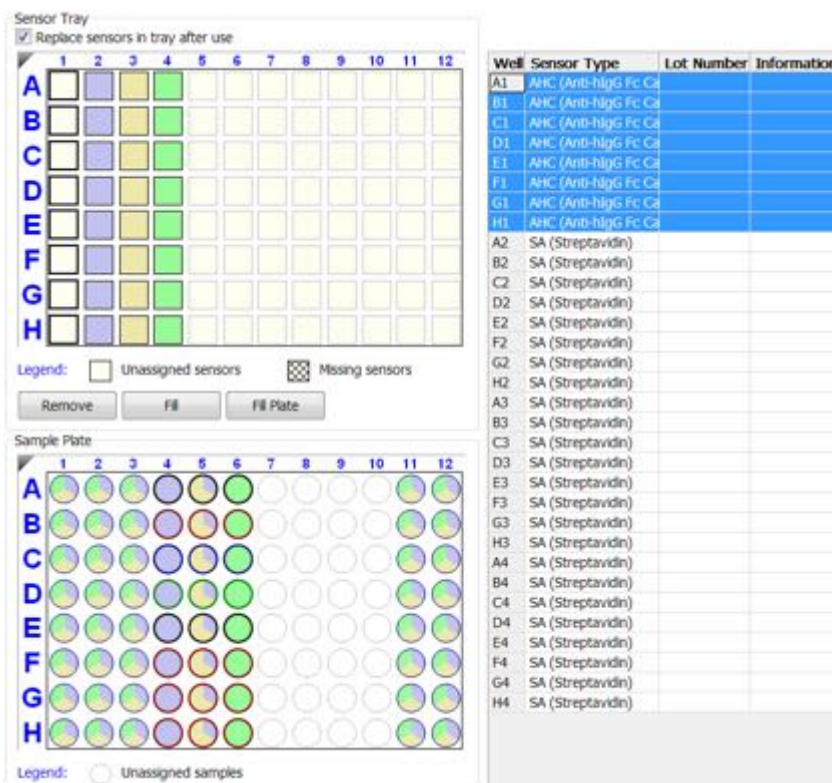

Figure 9-50: Assay Sensor Type Reassignment
2. Right-click in the **Sensor Tray Map** or click in a cell in the **Sensor Type** table column and select a biosensor type from the drop-down list. The biosensor type associated with the assay will shift location accordingly (see Figure 9-50). In the example shown, Streptavidin is the **Sensor Type** used for the current assay. Column 1 was reassigned as AHC according to the heterogeneous tray being used.